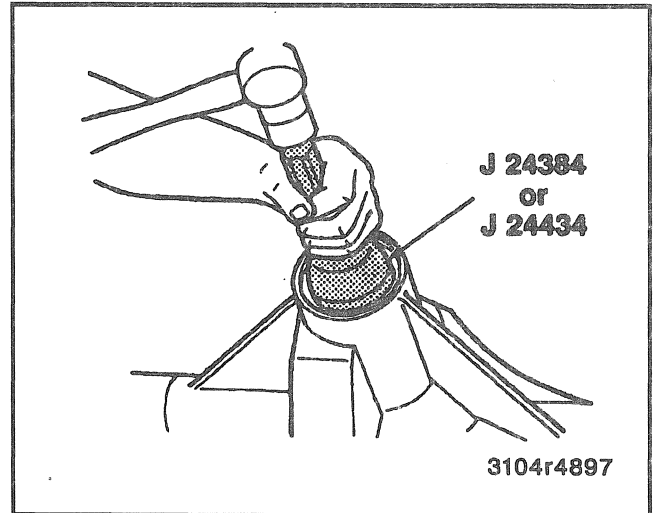

Figure 36—Installing Pinion Oil Seal into Bore
1. Oil seal into the bore using J 24384 (Figure 36).